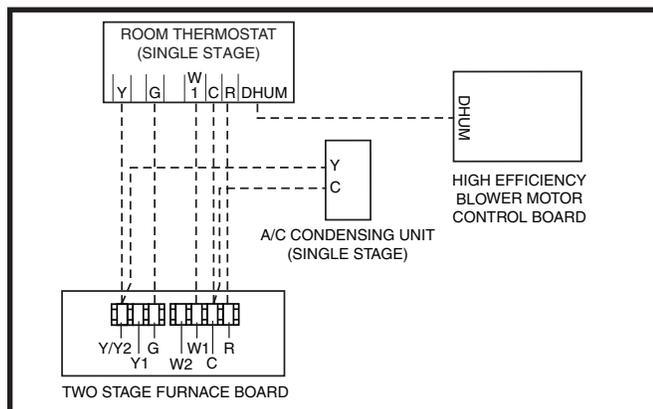

Figure 24. Wiring Configuration 1
- Connect the thermostat's **W** output to the furnace control boards **W1** terminal. This allows the furnace to always run in low output mode. See (Figure 24)
The Autostaging feature included on all G7 2-stage furnaces makes it possible to use a single stage thermostat and still receive some of the benefits of 2-stage furnace operation. If Autostage is enabled, the furnace will drop to **LOW** fire after initially starting in **HIGH** fire. After a period of time (8 or 12 minutes) the furnace will then stage up to **HIGH** fire, until the heating load is met. See Figure 24 and the Low Voltage Wiring section (page 25).
- √ Verify that all needed thermostat wires are securely connected to the correct leads on the terminal strip of the circuit board. See Figures 24 - 26 (page 26).